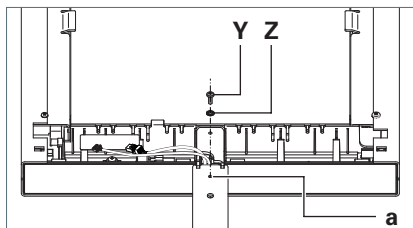

Fig. 12: Securing the luminaire head.
- Screw the screw **Y** along with the toothed washer **Z** into the bore **a** on the support tube and tighten the screw, see Fig. 12.